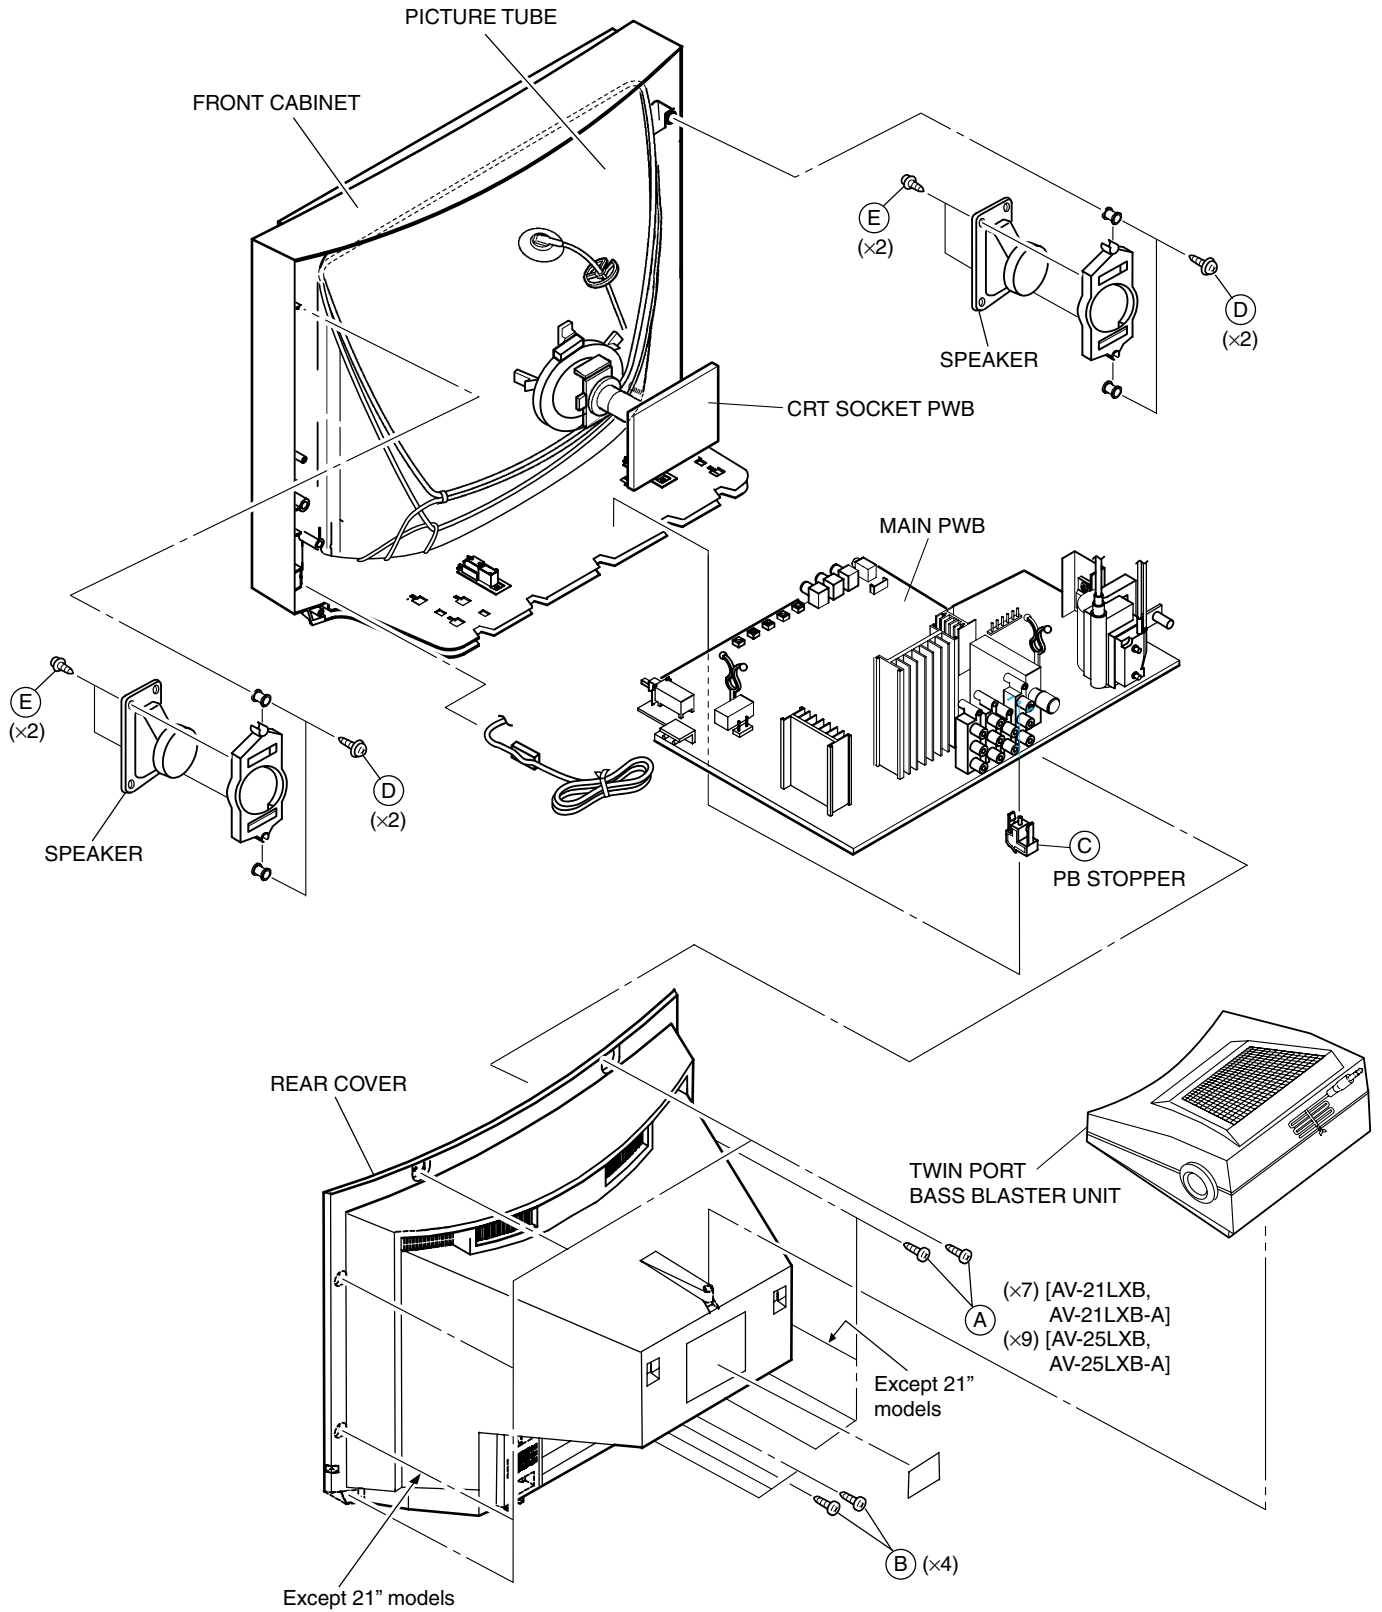

Fig.1
1. Remove the 7 or 9 screws marked (A) and 4 screws marked (B) as shown in Fig.1.
1. Remove the 2 screws marked (D) and 2 screws marked (E) as shown in Fig.1.